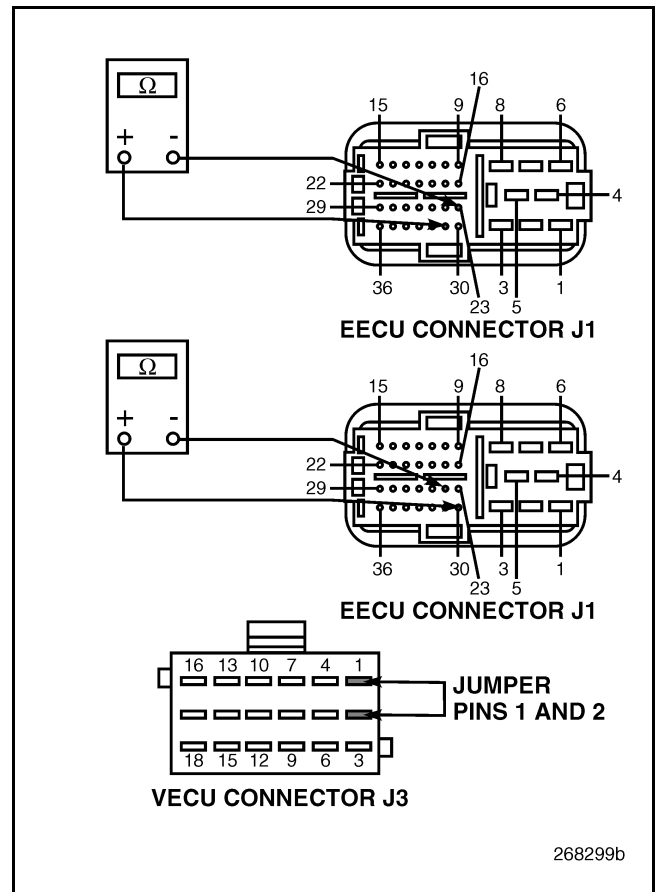

Figure 656
5. Check for continuity between EECU connector J1 pins 23/24 and 30/31 (see Figure 656).